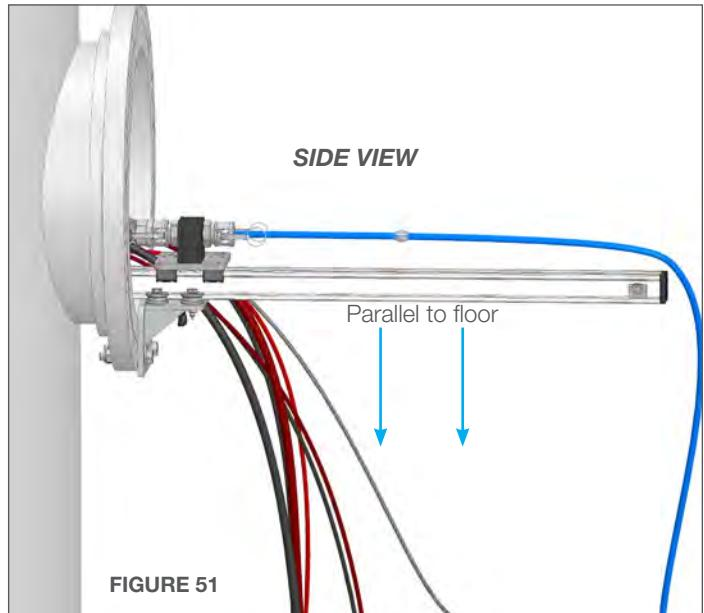

FIGURE 51
3. Make sure the Trolley Clamp is securely fastened . If the Rail Mount comes loose it could cause damage to other components. **(Figure 51)**